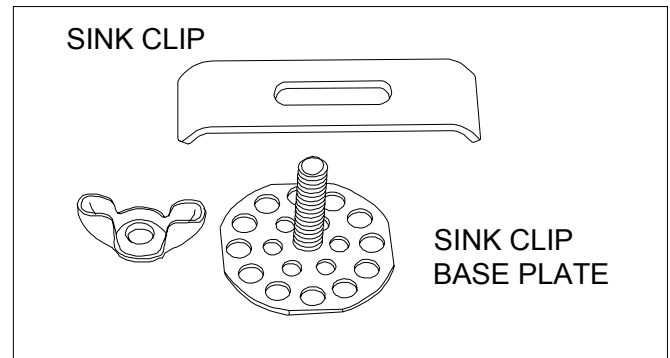

Figure 3A
- Support clip (FIG. 3A)
- Sink clip base plate and wing nut (FIG. 3A)